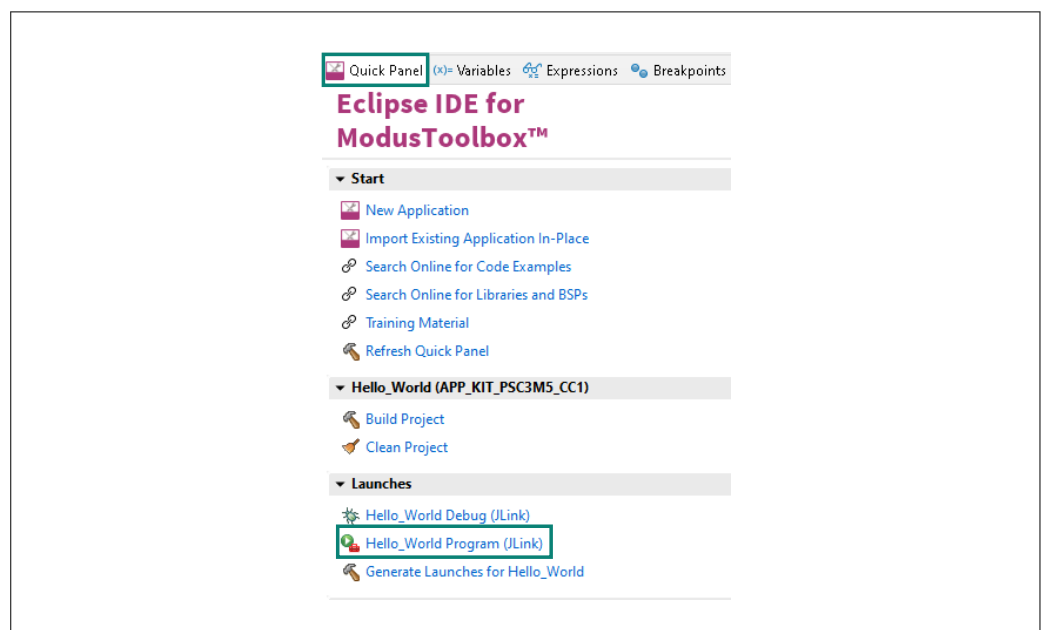

Figure 8 Programming in ModusToolbox™ software
- b. In the **Quick Panel**, click the <App_Name> **Program (JLink)** configuration from the **Launches** section, as shown in Figure 8